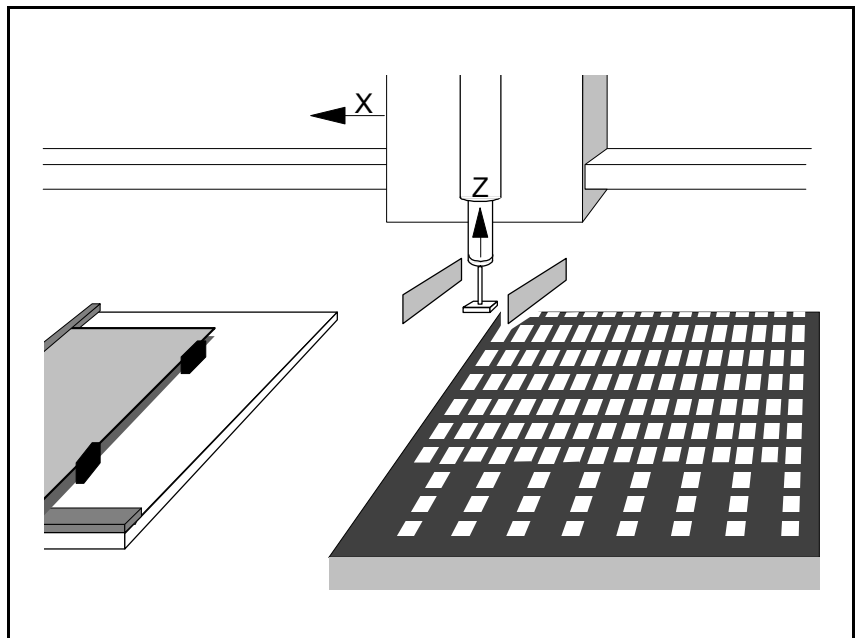

Figure 3-2. Picking a component
- The mount tool is raised with the Z movement, see Figure 3-2.